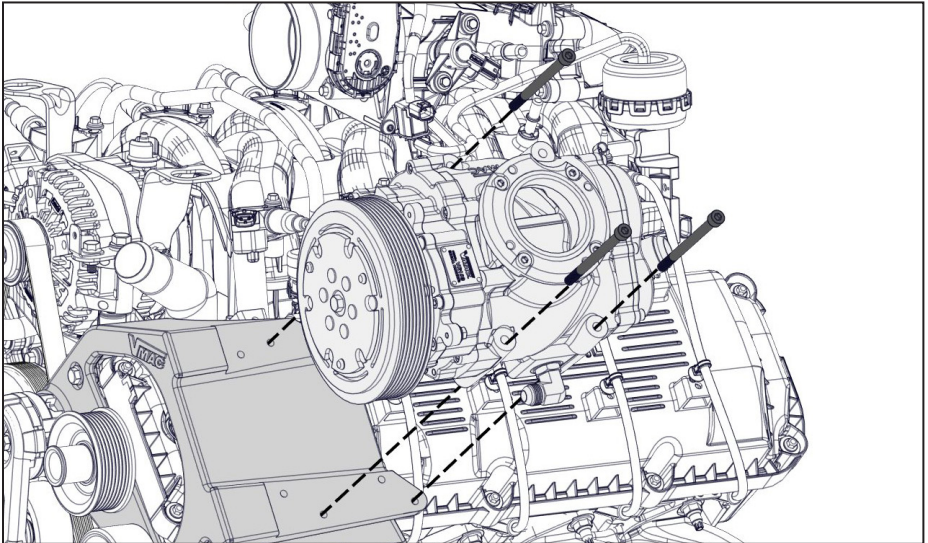

Figure 20 — Mount compressor
- ☐ Position the compressor on the mounting bracket and secure it using the (x3) supplied bolts (Figure 20).